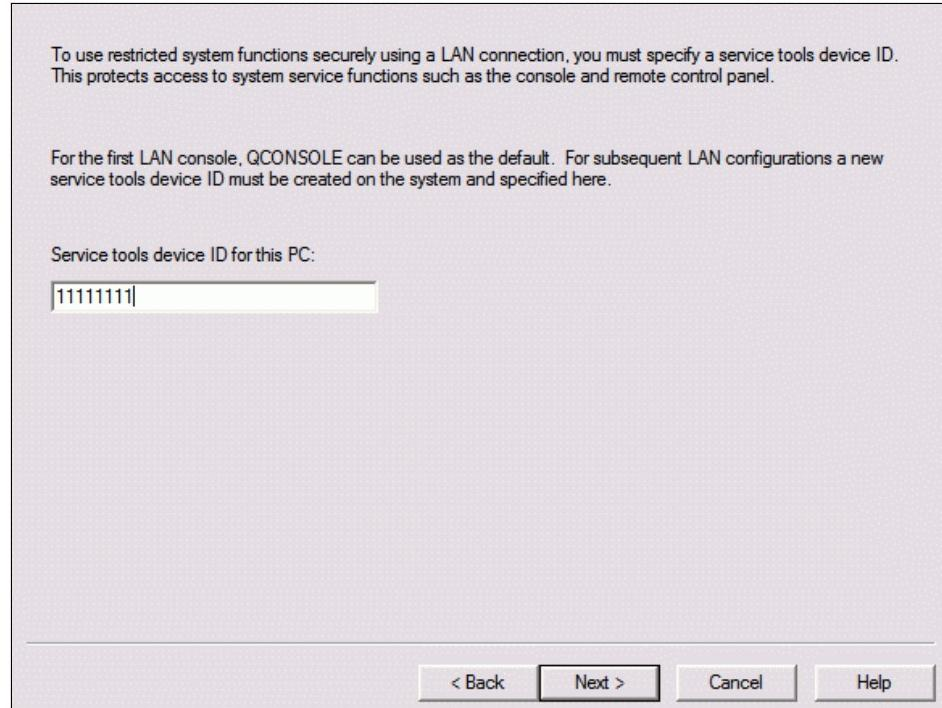

Figure 7-44 IBM System i Operations Console - enter Service tools device ID
9. The next window that appears requests a Service tool device ID to authenticate the communication between the LAN console PC and the IBM i partition, as shown in Figure 7-44 on page 290.